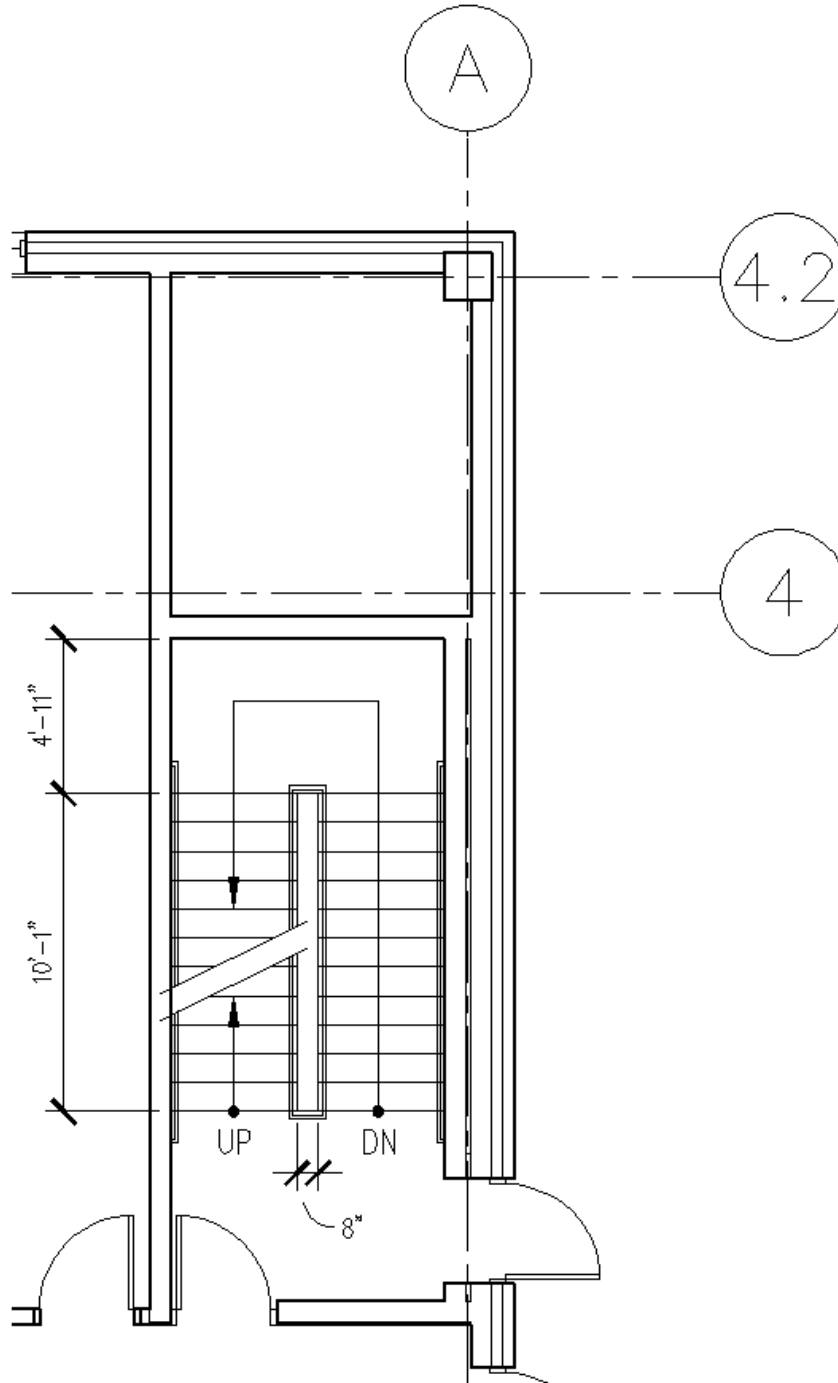

Figure 3-3.15 East utility stair shaft
33. Following the same instructions as the previous step, draw the east stair per **Figure 3-3.15**, plus
Notice in Figure 3-3.15 that the angled break lines help to delineate both the *up run* and the *down run*, which would otherwise overlap and be confusing.